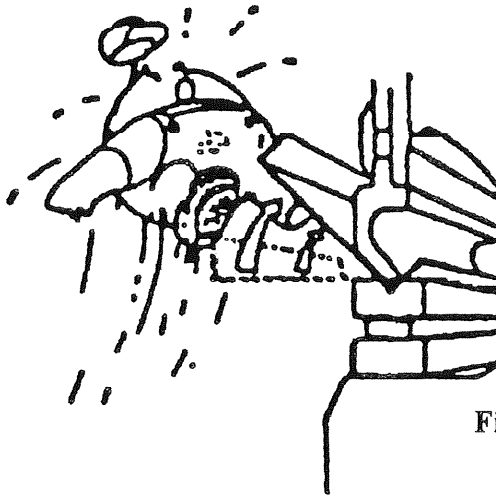

Figure 2.18
- Beware of sudden movements of the worksheet during bending (Fig. 2.18).